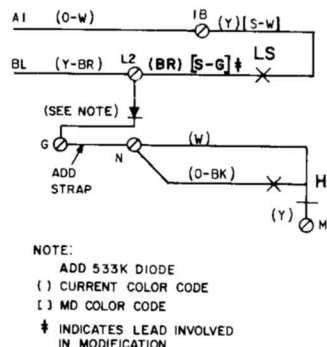

Fig. 1—Station Busy Lamp (Without I Hold Feature)
- Change Fig. 1
◆ Fig. 1—565HDR (MD) Telephone Set ◆